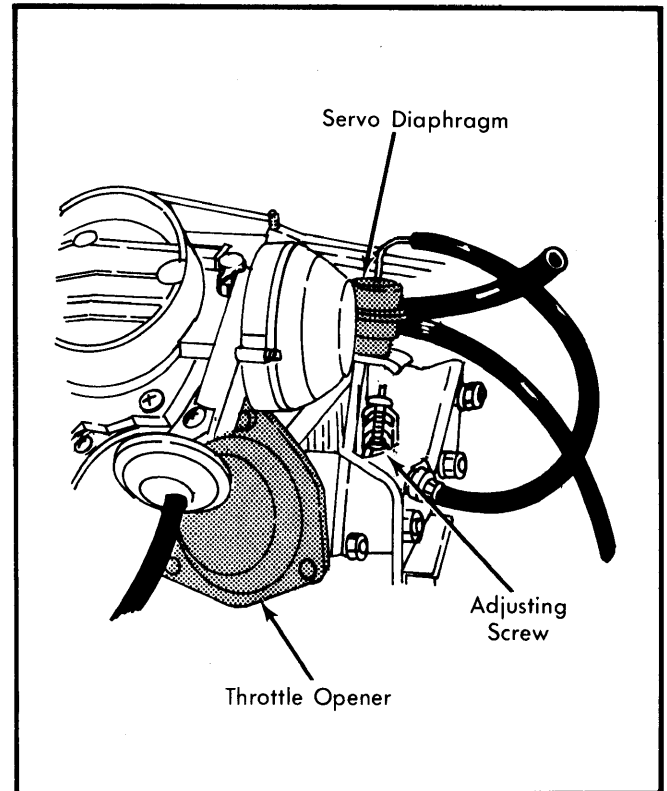

Fig. 10 Adjusting Throttle Opener (A/C Models Only)
1) Connect tachometer to engine, warm up engine and run at idle speed. See Fig. 10. Stop engine and remove air cleaner. Disconnect vacuum sensing tube (servo diaphragm to 3-way solenoid valve) at servo diaphragm.